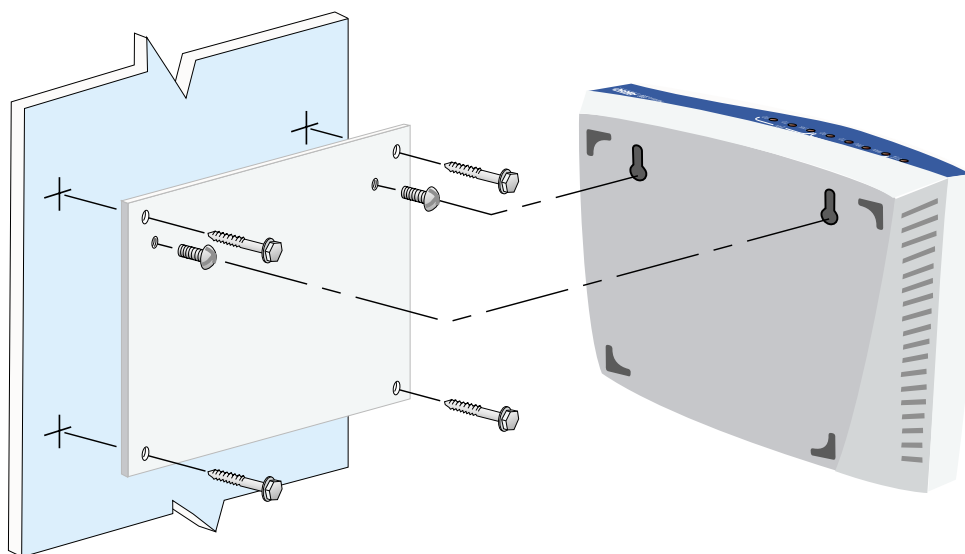

Figure 15. Wallmounting the NetVanta 3200
3.	Install two #8 PAN headscrews (1 1/2" or greater in length) wood screws into the mounted board, following these guidelines and referring to Figure 15: <ul style="list-style-type: none"> • Screws should be spaced horizontally, approximately 5" apart. Find exact positioning by using the location of the two eyed insets on the bottom of the NetVanta 3200 as a guide. • Screws should be horizontally level with each other. • Leave approximately 1/4" of the screws protruding from the board to allow the heads of the screws to slide into place in the unit's keyed insets.